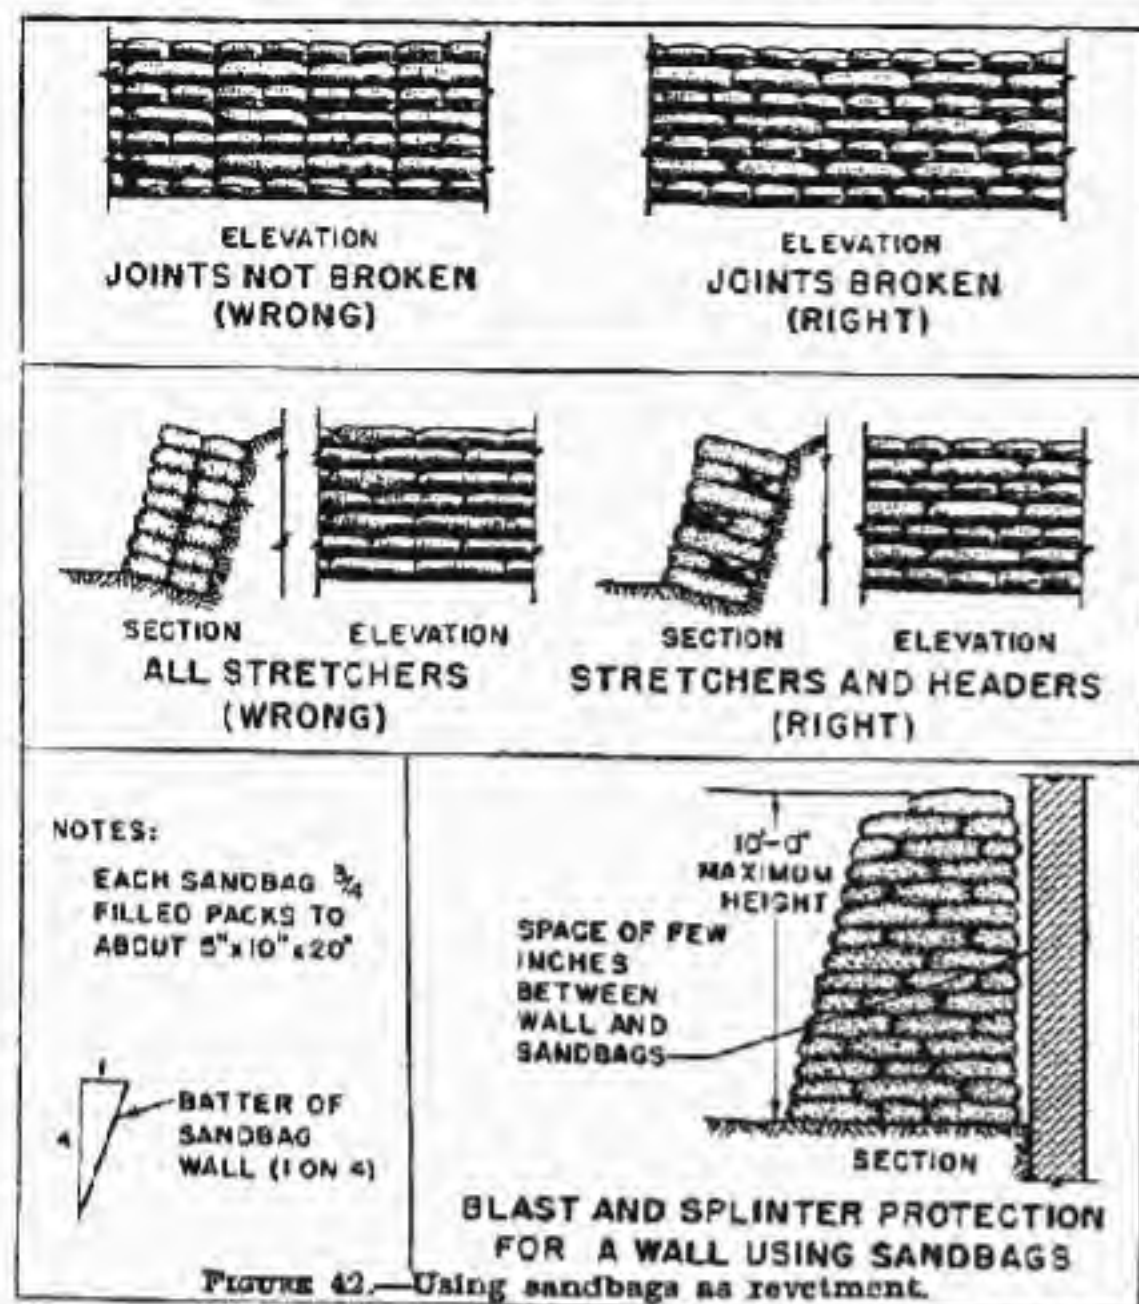

FIGURE 42.—Using sandbags as revetment.
■ 16. USING SANDBAGS (see fig. 42).—Sandbags are always laid with the chokes (mouths) tucked under and the side seams and tied ends inside. Grain, cement, and similar
bags can be used, but they should not be more than half-filled or they will be too heavy for a man to handle. Sandbags are used frequently as reveting material to bolster the sides of holes in the ground. Figure 42 shows various ways to use sandbags for revetments. To lay sandbags properly, they must be shaped so that when in place they are roughly half as wide as they are long.